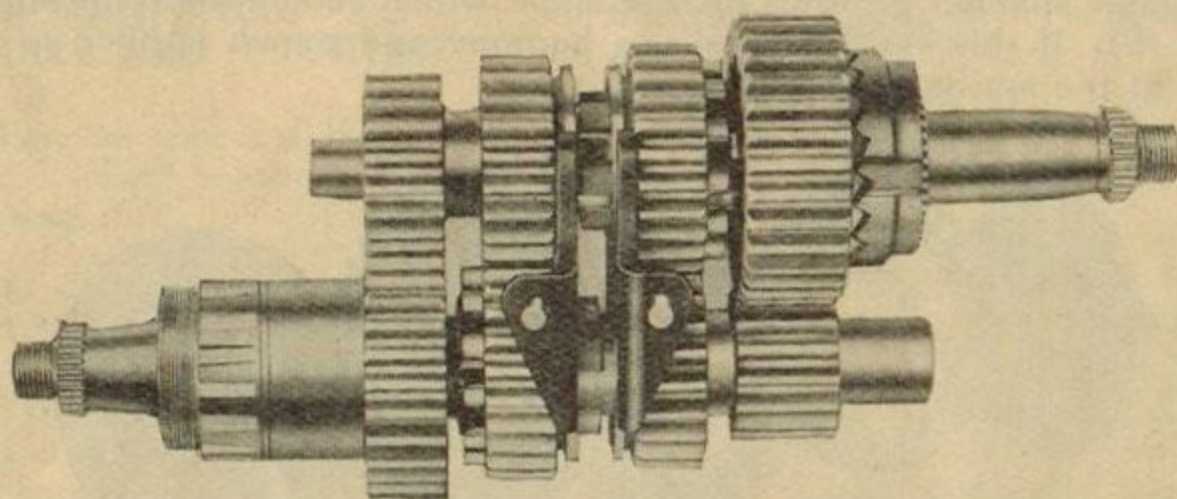

FIG. 23. THE GEARS REMOVED FROM THE BOX.
It will be seen that the slot for the striking plate is formed at one side of the teeth (Fig. 23). When re-assembling take care that the narrow grooves on each pair of gear wheels are adjacent to each other and that the striking plates are assembled so that the pegs which form a bearing for the striking fork lie towards the inspection cover but remote from the striking fork.
In introducing the cam plate (D) see that it engages with the spring loaded plunger (F) which locates the gears. It will be seen that for top and bottom gears, engagement is effected by means of pegs on the sliding pinions which engage with the holes on the 1st and 4th speed wheels (Fig. 23).